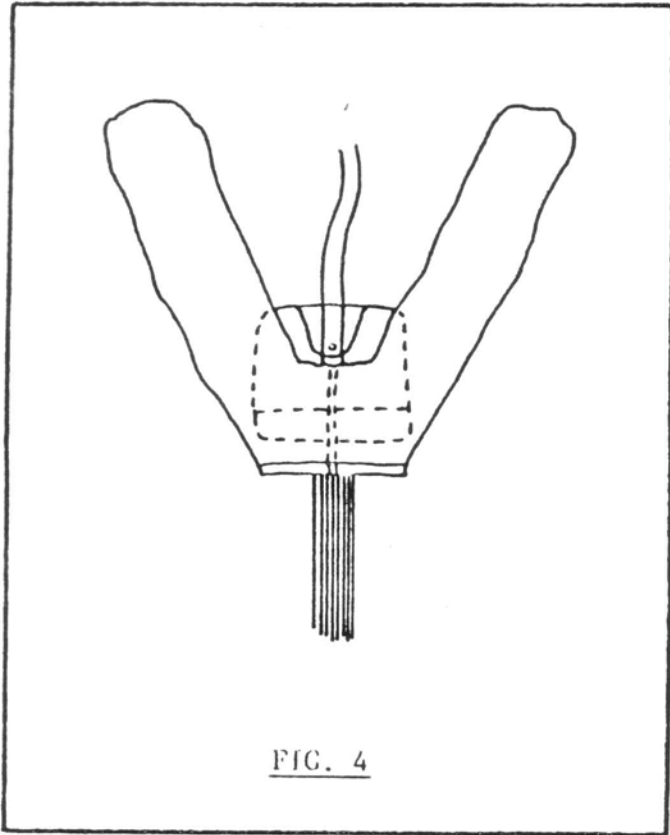

FIG. 4
4) Place the reserve deployment bag in the "V" formed by the canopy as shown in FIG. 4. Do not substitute any other deployment bag. Only the JAVELIN "molar" bag may be used in the JAVELIN harness/container system.